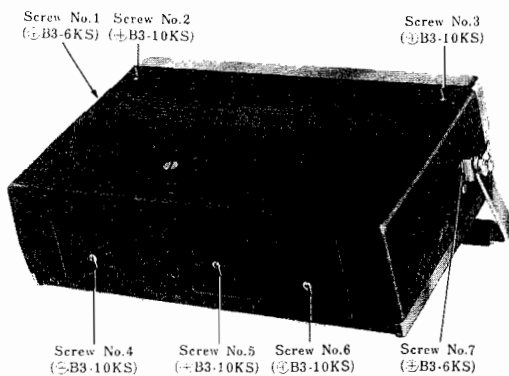

Fig. 1
To Remove Chassis (Refer to Figs. 1 & 2)
1. Remove four (4) control knobs from cabinet.
2. Remove seven (7) cabinet back cover mounting screws, Nos. 1~7, as illustrated in Fig. 1.